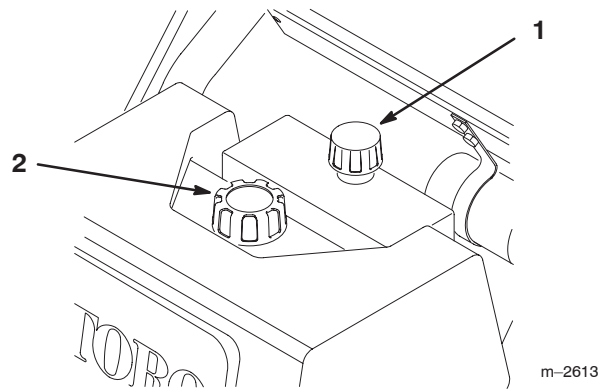

Figure 29
2. Clean area around filler neck and cap\dipstick of hydraulic tank (Figure 29).